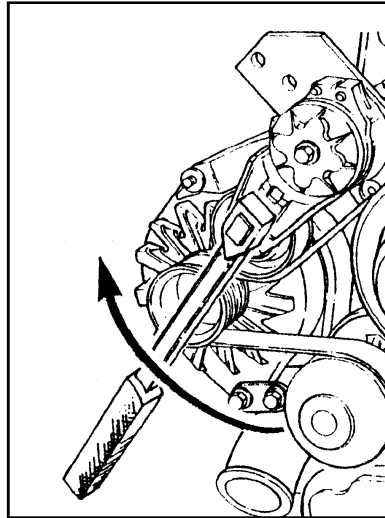
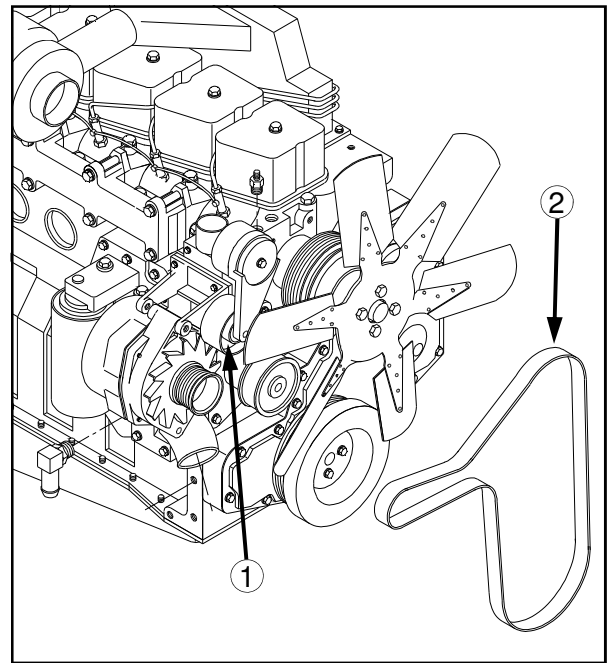

FIG 126-1
FIG 126-2
REMOVAL– Insert a 1/2 inch square ratchet drive (fig. 126-1) into the belt tensioner (fig. 126-2, item 1) and lift upward to remove the belt (fig. 126-2, item 2).